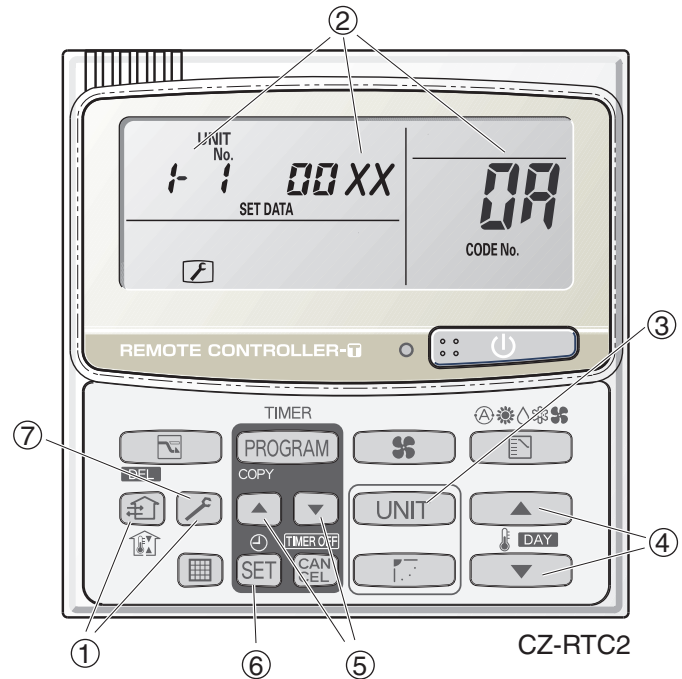

Fig. 1
- "SET DATA," unit No. "1 1" (or "ALL" in the case of group control), item code "01," and settings data "00XX" are displayed blinking on the remote controller LCD display (Fig. 1). At this time, the indoor unit fan (or all indoor unit fans in the case of group control) begins operating.